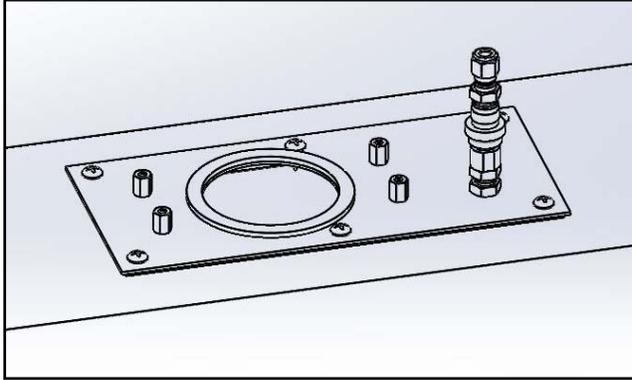

Figure 9
- (6) Once the base assembly is properly aligned, use the holes to mark locations for ¼" self-tapping screw installation. Attach the duct mount assembly to the duct via ¼" self-tapping screws (not provided) as shown in Figure 9.